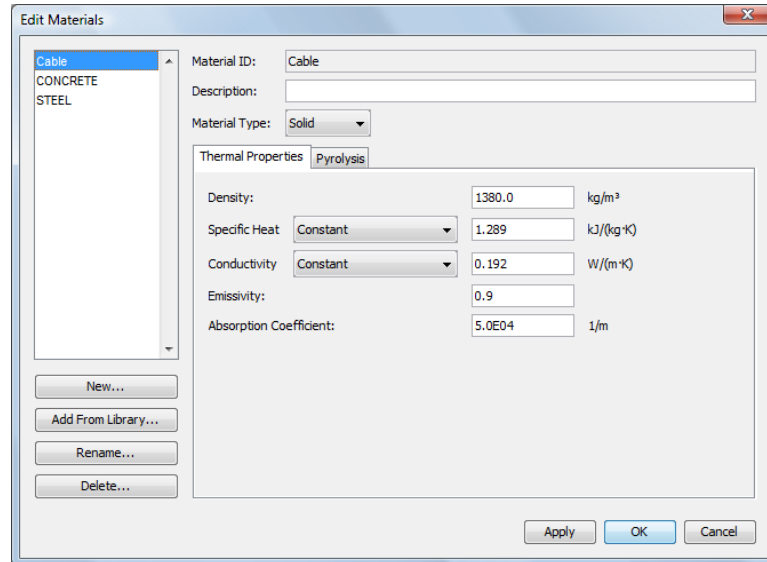

Figure 7.6. Thermo-plastic properties
4. In the **Density** box, type 1380 kg/m^3 , Figure 7.6